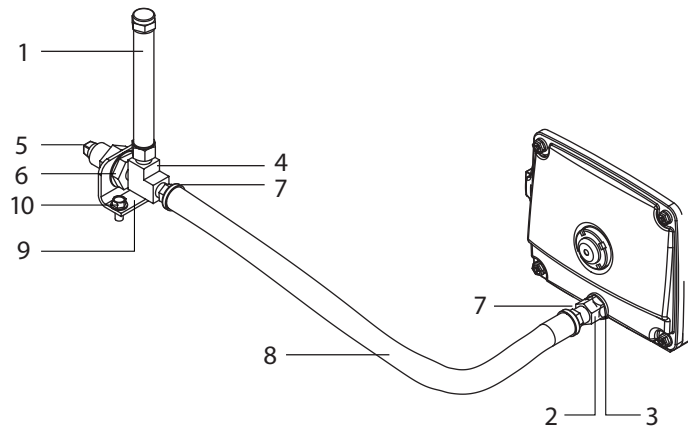

Figure 2
3. Install 1/4" BSP fitting (Figure 2, item 2) with o-ring (3) into rear cover of pump.
4. Attach hose barbs (7) to each end of 3/8" hose (8).
5. Thread one end of hose (8) into fitting (2) of rear cover.
6. On opposite end of hose (8), thread in tee (4). Position tee (4) with female threads up.
7. Remove nut from 1/4" union fitting (6).
8. Thread in hose (8) with tee (4) to large end of union fitting (6).